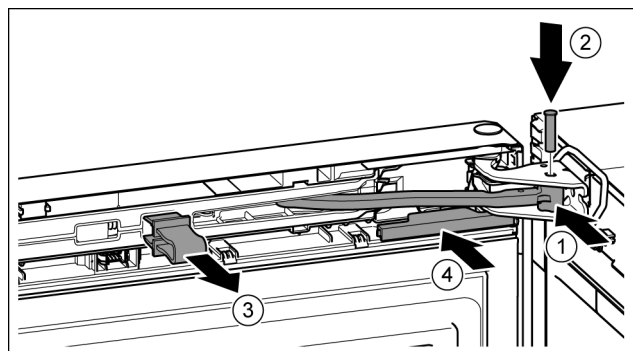

Fig. 48
- ▶ Turn the hinge in the bearing bracket. Fig. 48 (1)
- ▶ Insert the bolt in the bearing bracket and hinge. Make sure that the catch mechanism is sitting correctly in the groove. Fig. 48 (2)
- ▶ Remove the locking device. Fig. 48 (3)
- ▶ Slide on the cover. Fig. 48 (4)